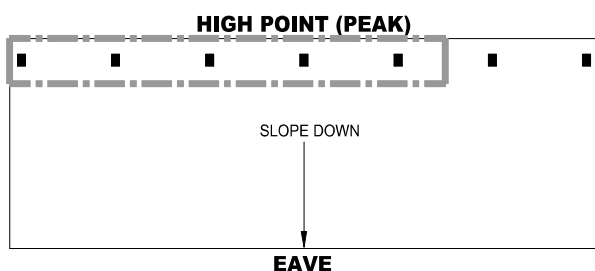

FIGURE 19A
- Calculate the most hydraulically demanding 5 contiguous DS sprinklers. See FIGURE 19A.